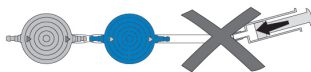

Fig. 24: Avoidance of pressurisation
- ▶ Pressurisation with a single-use syringe should be avoided both at the proximal and the distal end (Fig. 24).